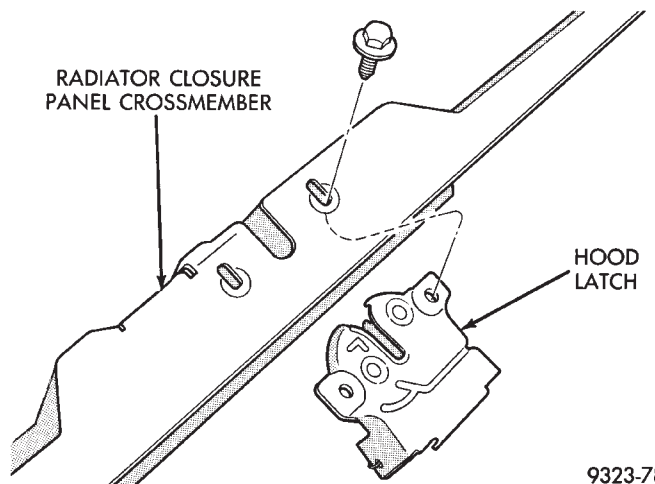

Fig. 3 Hood Latch
- (1) Release hood latch and open hood.
- (2) Remove bolts holding radiator closure panel crossmember to closure panel.
- (3) Separate crossmember from vehicle.
- (4) Disconnect hood release cable from hood latch.
- (5) Remove bolts holding hood latch to crossmember (Fig. 3).
- (6) Separate hood latch from crossmember.